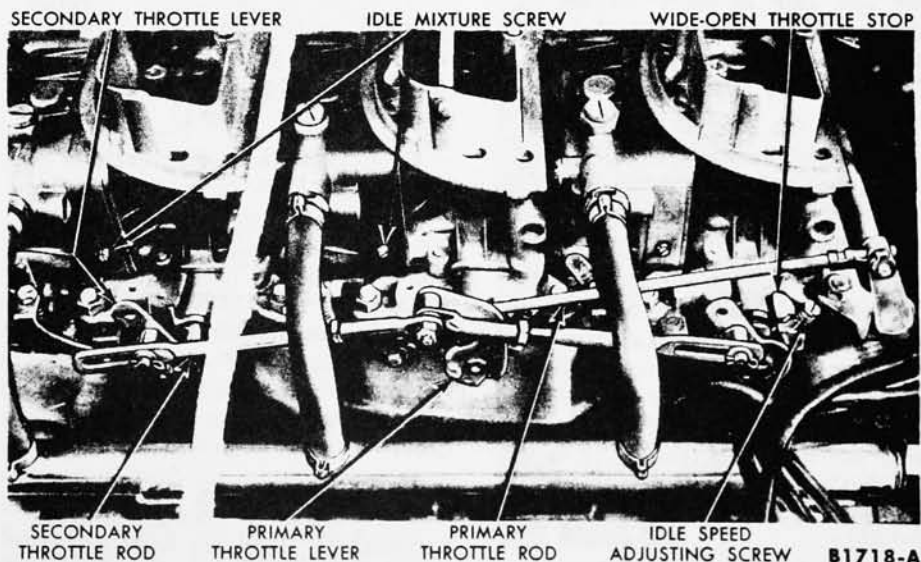
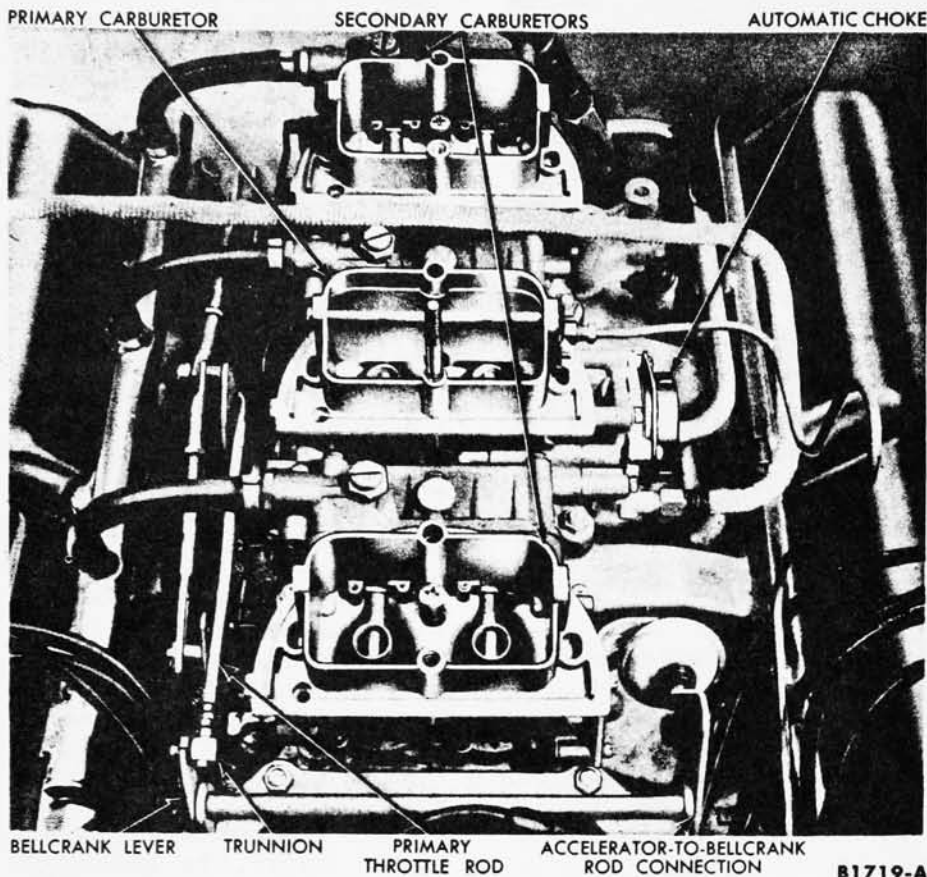

FIG. 5—390 6-V Carburetor Throttle Linkage Installation
FIG. 6—390 6-V Carburetor Installation
2. Establish an initial idle fuel mixture adjustment by turning both idle mixture screws on each carburetor (Fig. 5) inward until they are lightly seated. Then turn the idle mixture screws on each secondary carburetor (Fig. 6) outward 3/4 turns, and turn the primary carburetor idle mixture screws outward one full turn.
3. Install an engine speed tachometer. Start the engine; move the transmission selector lever to the DRIVE (D1) position, and set the parking brake. Adjust the engine idle rpm to 575-600 rpm by turning the idle speed adjusting screw (Fig. 5) on the primary carburetor only.
1. Back off the idle speed adjusting screw (Fig. 5) on each secondary carburetor sufficiently to allow the throttle plates to seat in the throttle bores. Turn the idle speed screws inward until the screw end just touches the stop on the throttle lever; then turn it inward an additional 1/2 to 3/4 turns. **A minimum throttle opening is desired on the secondary throttle plates. The only requirement necessary is that the plates do not stick in the bores.**
2. Disconnect the secondary throttle rods at each secondary carburetor throttle lever (Fig. 5). Disconnect the primary throttle rod at the bellcrank lever.
6. With the primary throttle lever against the idle stop, adjust the length of the primary throttle rod (Fig. 6), so that the trunnion will just engage in the hole in the bellcrank lever. Install the rod retainer clip.